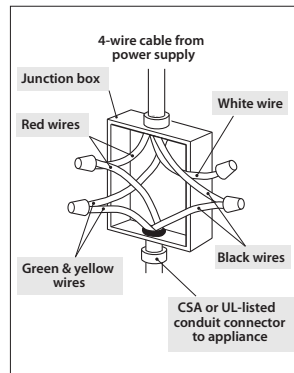

Fig. 4 Electrical connection to a four-wire electrical system
- 7c Terminate the neutral (white) wire in the junction box (Fig. 4).
- 8c Connect the green cooktop cable wire to the green grounding wire in the junction box (Fig. 4).